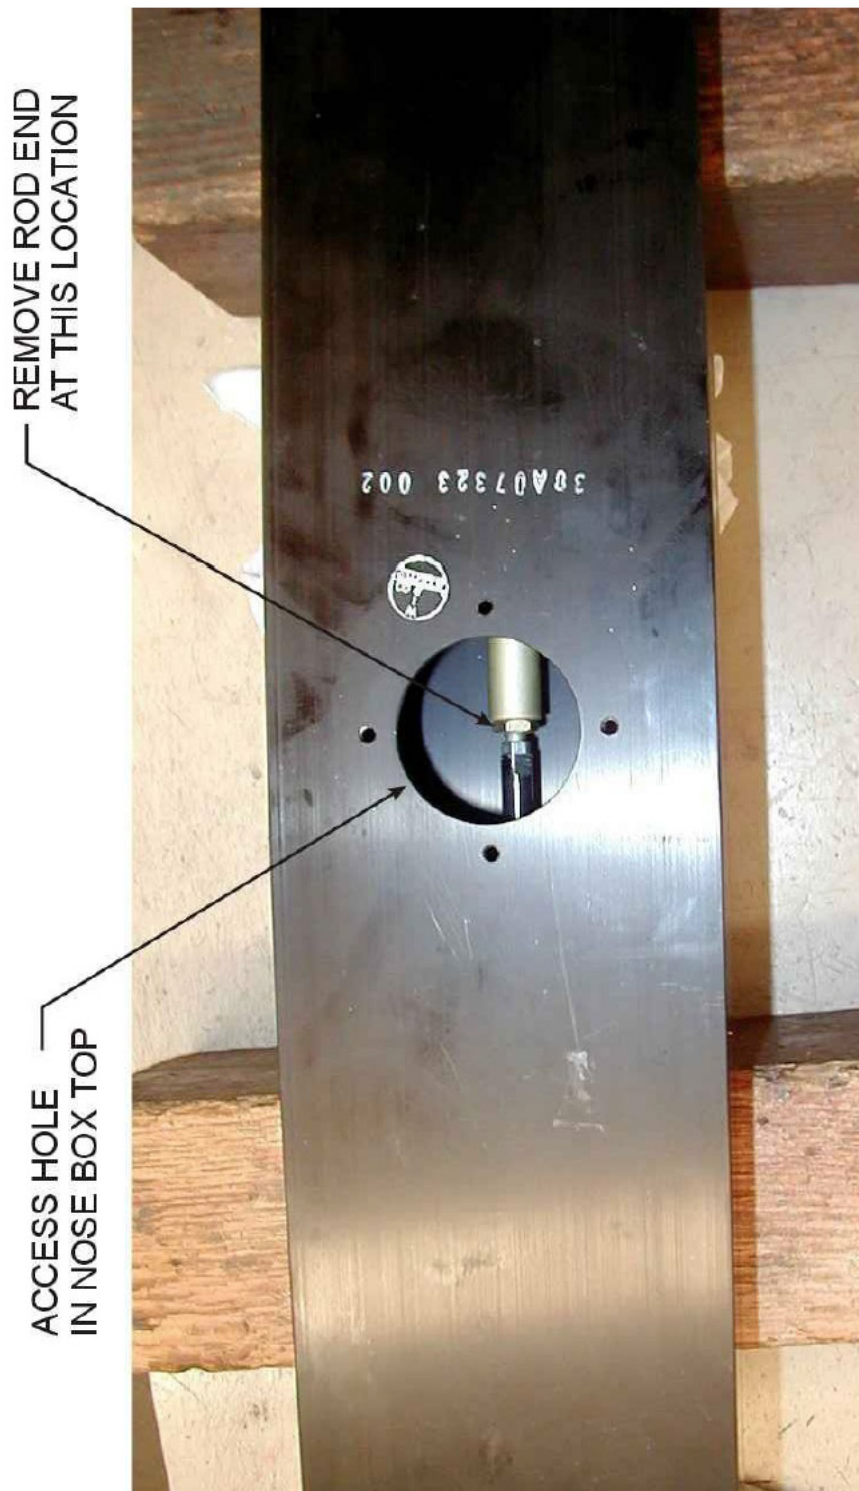
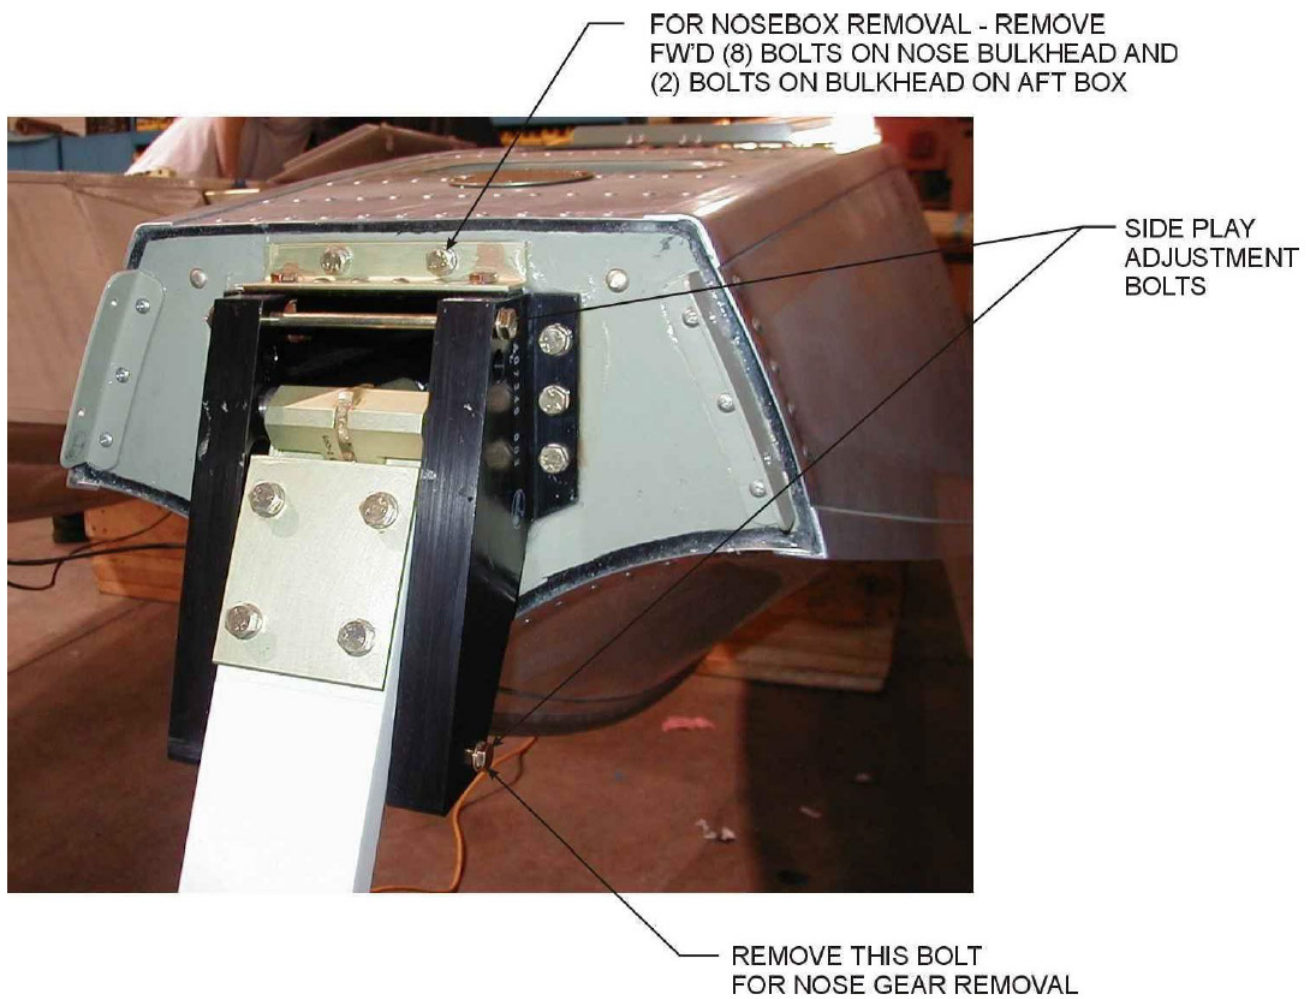
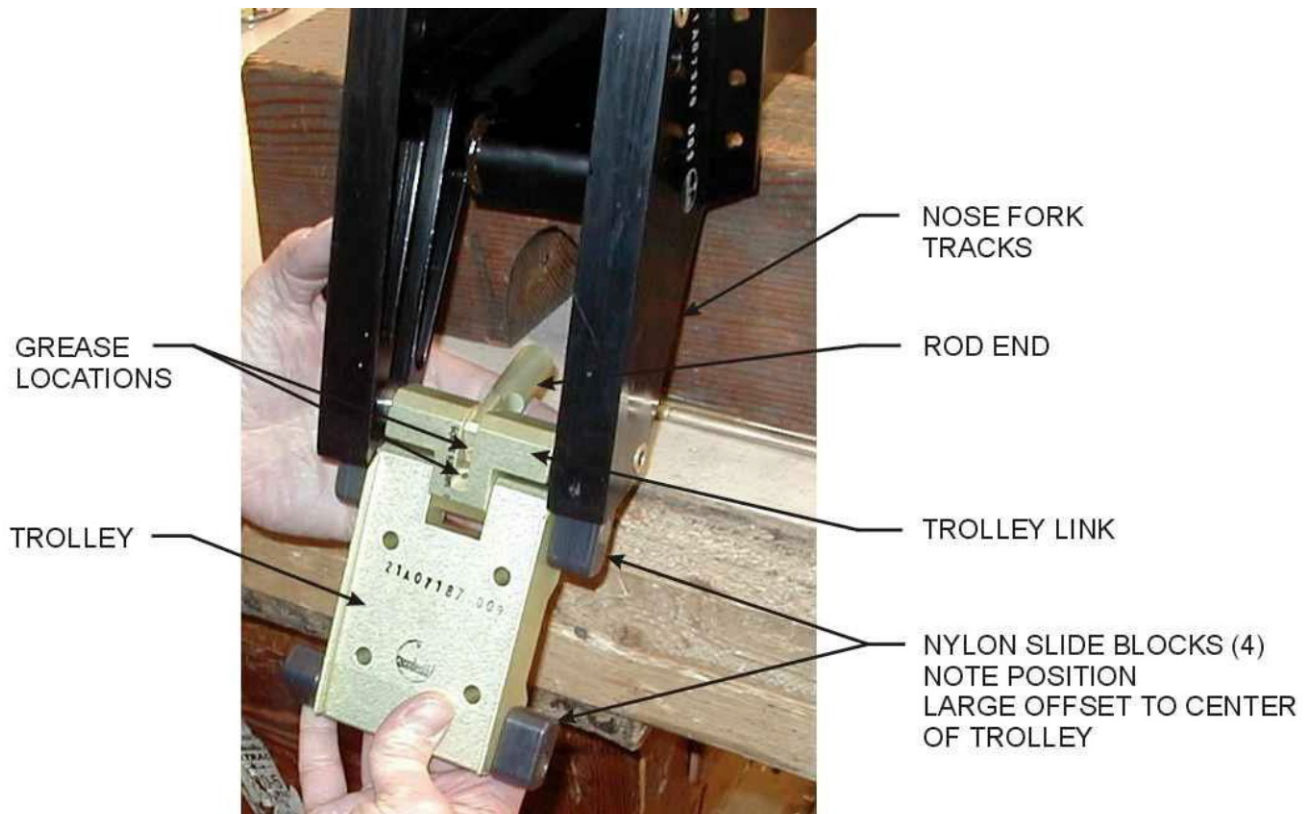

FIGURE 8-1 NOSE BOX ACCESS LOCATION
FIGURE 8-2 FRONT VIEW NOSE BOX
FIGURE 8-3 POSITION OF TROLLEY TO NOSE BOX
3. Remove round inspection cover on nose box top from above access (refer to Figure 8-1).
1. If installing rod end and trolley link to trolley, note position of grease hole, it has to be positioned up (refer to Figure 8-3).
2. Before inserting trolley in nose box, take care to position nylon slide blocks. Position as noted on Figure 8-1 and Figure 8-3.
3. Slide trolley into nose box and reconnect to cylinder (refer to Figure 8-1).
4. After above has been accomplished, the down lock has to be adjusted by lengthening or shortening cylinder rod end. Adjust so two (2) rollers on the trolley link axle sit in the nose fork down stop slots.
6. Bring gear to down and locked position and set side play adjustment. These are the two (2) long ¼ inch bolt that (refer to Figure 8-2) are horizontal through the nose fork. Adjust to 3/32 maximum side play. Do not over-tighten bolts to avoid gear binding.
7. Reinstall cover on Figure 8-1.
3. Assemble per Figure 8-1.